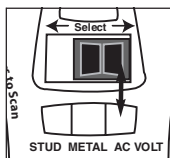

Fig. 4
STEP 3: Move the switch to the "AC Volt" setting (Fig. 4) and scan the surface a third time to detect any live wires behind the wall. Mark the position of these wires if they're in proximity to the location of the electrical box, switch or fixture to be installed.
- Position the select switch in the "AC Volt" position. (Fig. 4)